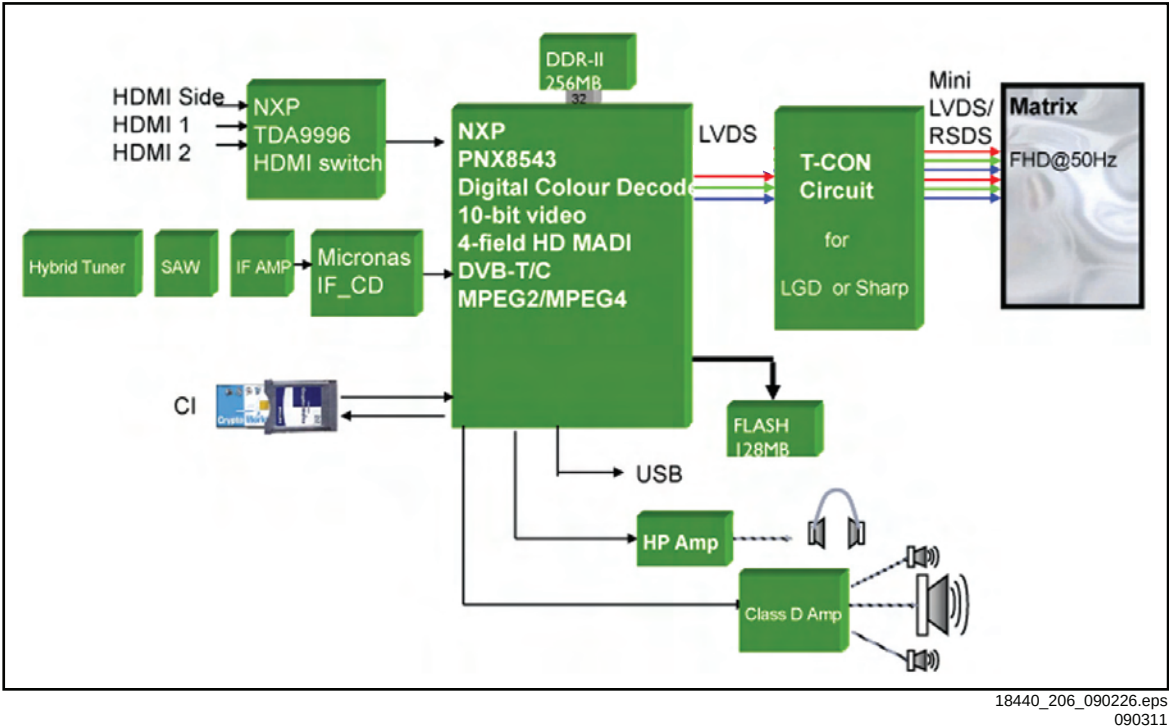

Figure 7-1 Architecture of TV543/32 Forward Integration platform
- For details about the chassis block diagrams refer to chapter 9. Block Diagrams. An overview of the TV543 architecture can be found in Figure 7-1.